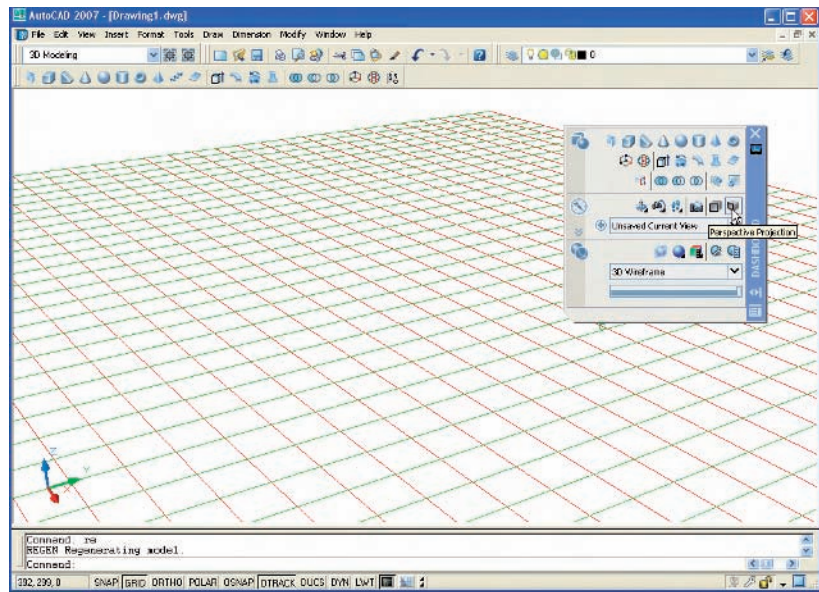

Fig. 16.4 The **acadiso3D** screen
5. The AutoCAD window should appear as in Fig. 16.4.
10. Note (Fig. 16.4) that the screen is in **Perspective** projection. In later chapters it will often be set to **Parallel** projection.